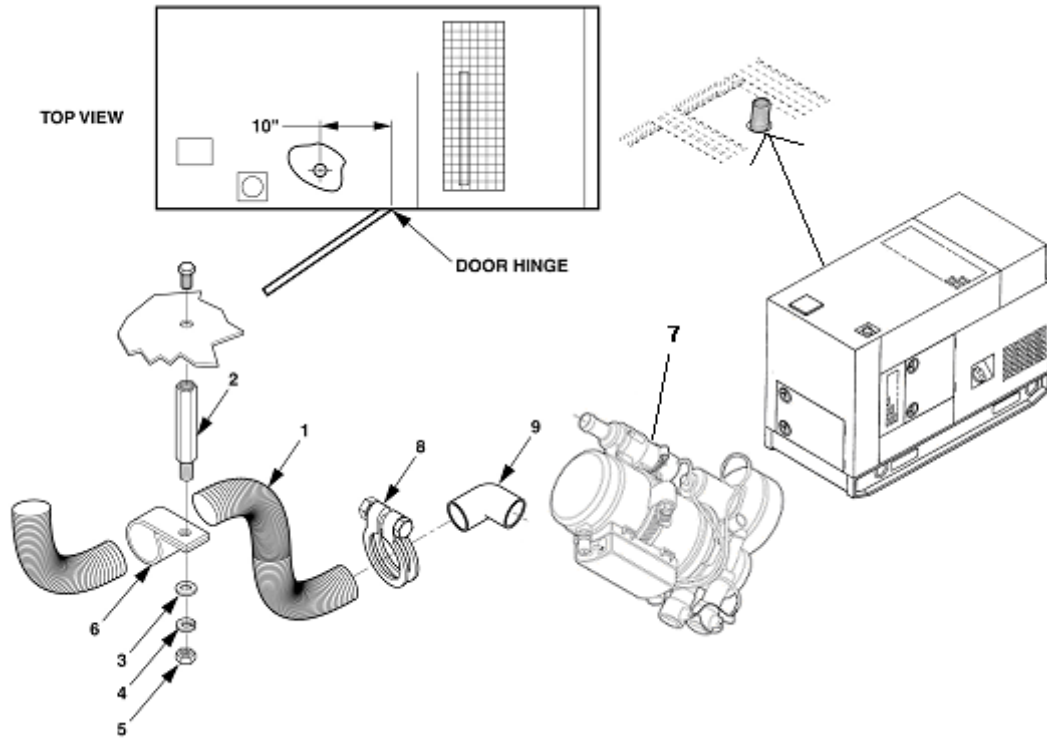

Figure 4-43. Exhaust Hose Removal
12. Remove hose (1), Figure 4-43, and hardware (2, 3, 4, 5, 6, and 8). Remove exhaust elbow (9) from heater (7). Screw is secured with nut. If necessary, add spacer to prevent threads from protruding.